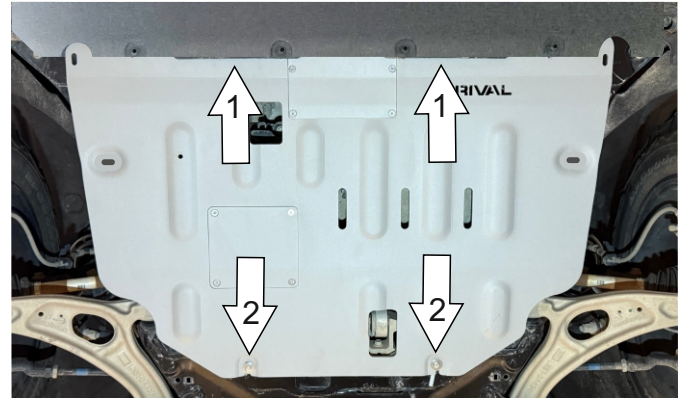

Fig. 2
2. Slide front part of skid plate under the bumper, then slide rear part of the skid plate back under previously installed factory bolts (Fig.2).